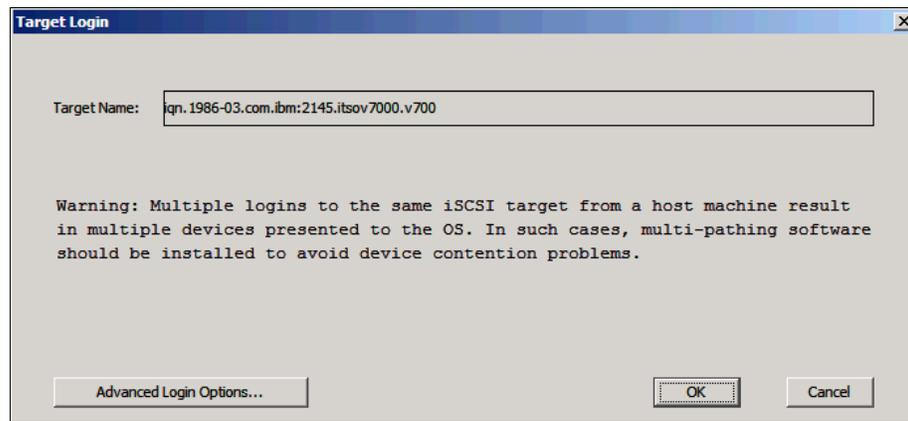

Figure 10-113 Target Login window
8. In the Target Login window (Figure 10-113), in the Target Name field, confirm that the name is the same name for iSCSI storage IBM Storwize V7000. Click **OK**.